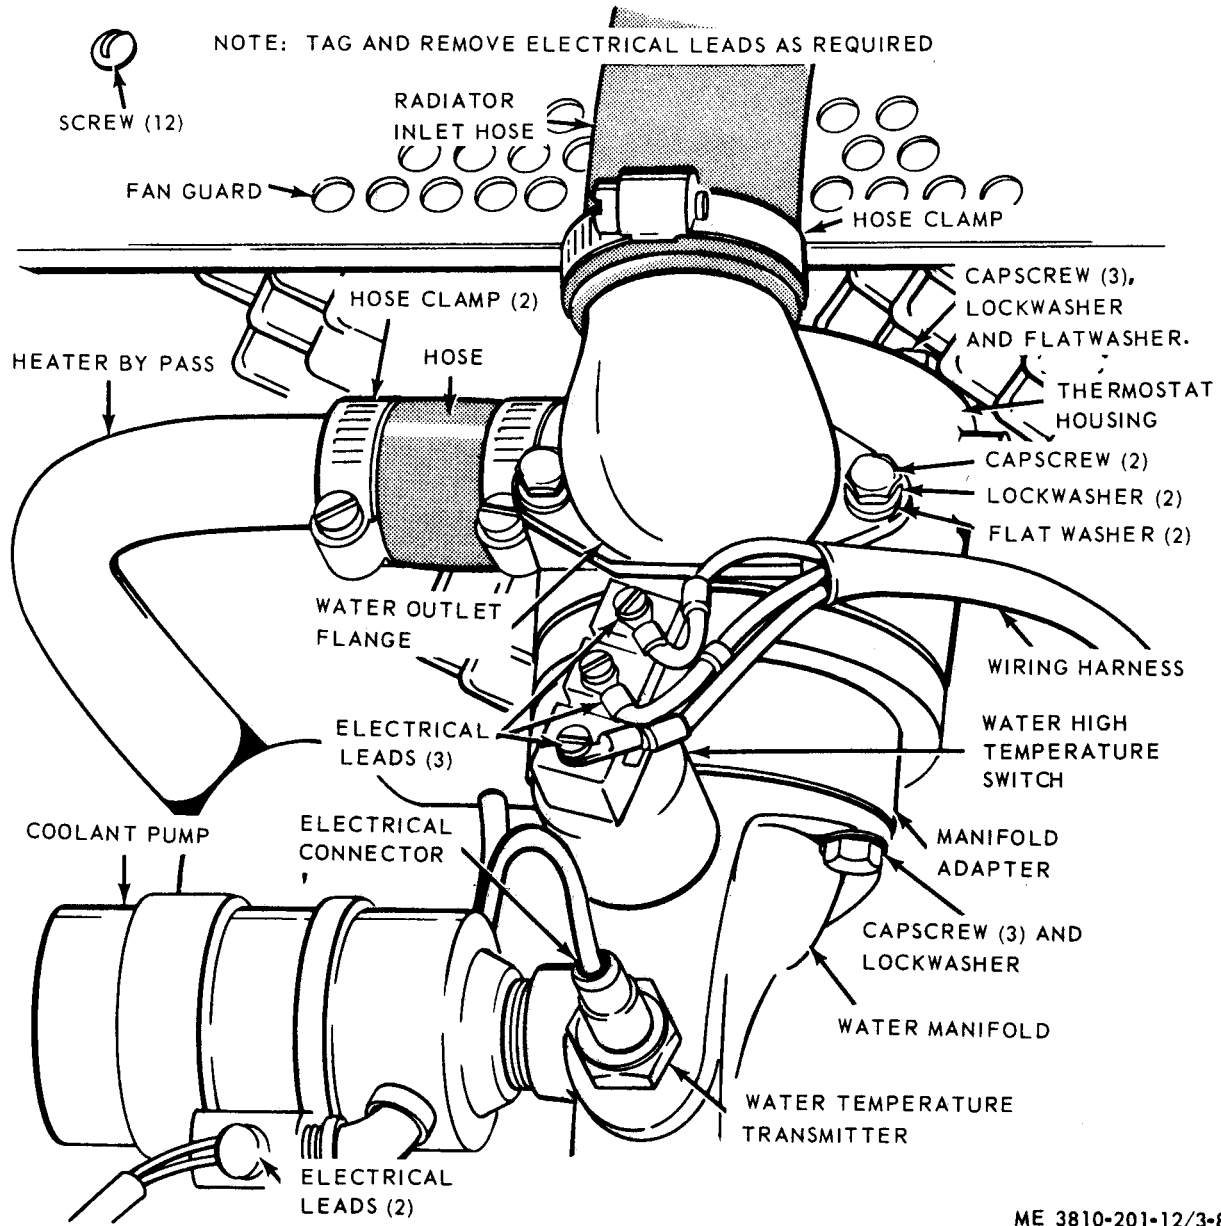

Figure 3-81 Water temperature transmitter, and water high temperature switch, removal and installation.
(1) Refer to figure 3-81, disconnect electrical connector, and remove water temperature transmitter from engine model 687C-18-ES. Install in reverse order.
(2) Remove transmitter from engine model D333TA in a similar manner to that given in (1) above.
(1) Refer to figure 3-81, tag and disconnect three electrical leads, then remove water high temperature switch from engine model 687C-18-ES. Install in reverse order.
(2) Remove water high temperature switch from engine model D333TA in a manner similar to that given in (1) above.
(d) Remove two capscrews, lockwashers, and flatwashers, then remove pipe flange from thermostat housing (fig. 3-81).